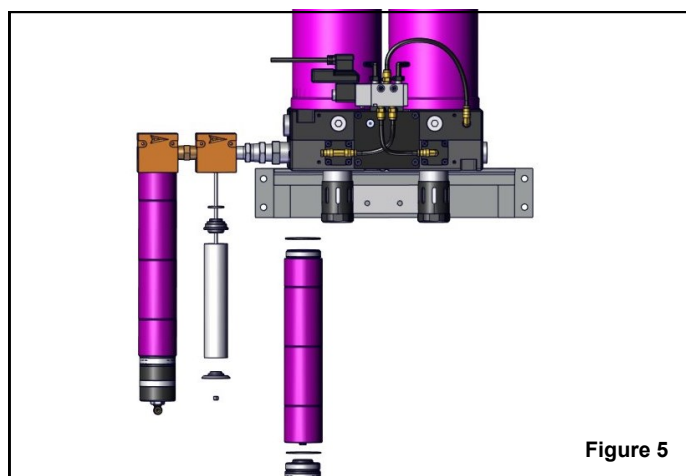

Figure 5
6. Remove bottom baffle, filter element, top adaptor, and O-ring. *Figure 5*